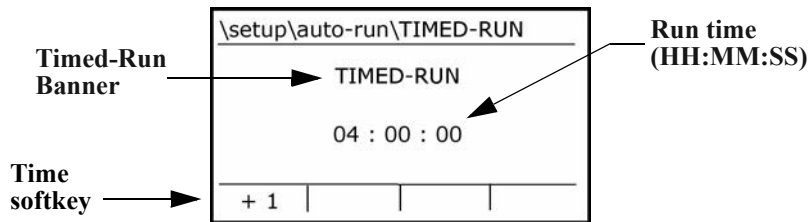

Figure 4–4: Timed Run Setup display
- In the Auto-Run display, cursor to highlight **MODE** (Figure 4–2).
- Press the Time softkey. The Timed Run Setup display appears (Figure 4–3).